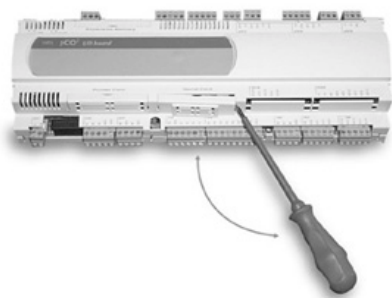

Fig. 3.2.1
With reference to Figs. 3.2.1-3.2.4, insert the board in the pCO as follows:
2. using a screwdriver, remove the *serial card* cover (see Fig. 3.2.1);